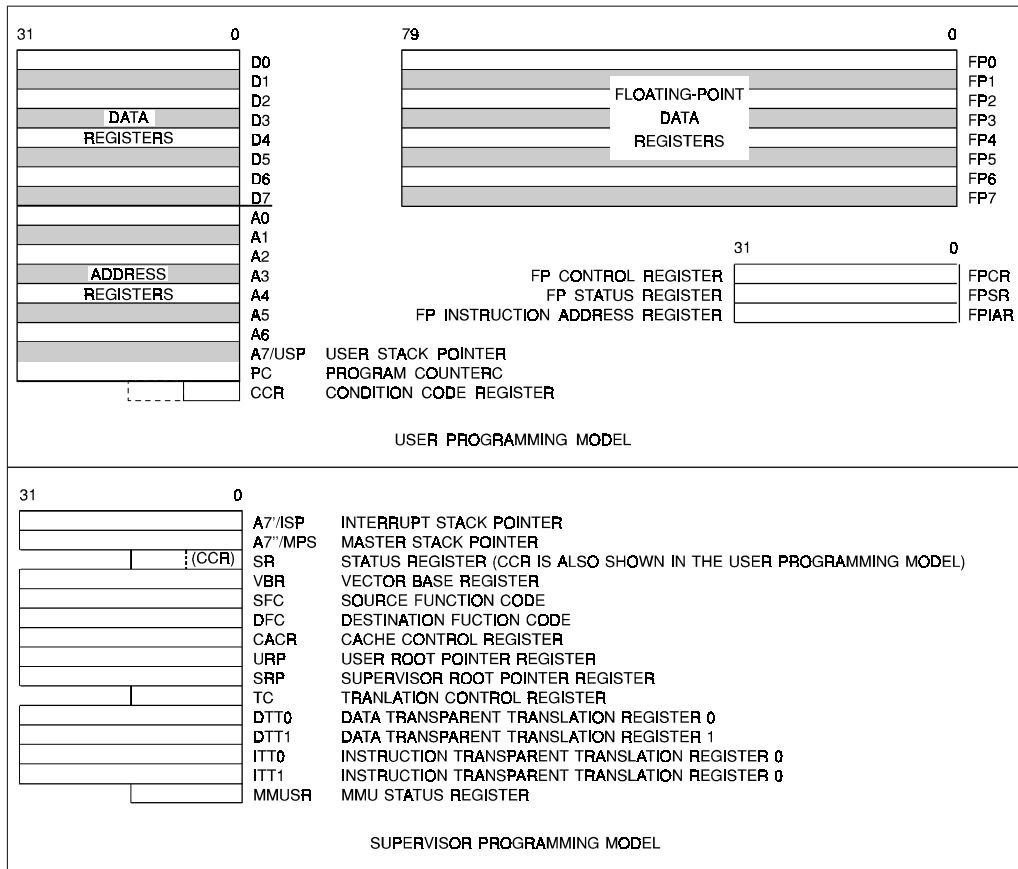

Figure 20 : Programming model.
The TS 68040 integrates the functions of the integer unit, MMU, and FPU. As shown in Figure 20, the registers depicted in the programming model provide access and control for the three units. The registers are partitioned into two levels of privilege : user and supervisor. User programs, executing in the user mode, can only use the resources of the user model. System software, executing in the supervisor mode, has unrestricted access to all processor resources.
Registers D0-D7 are data registers containing operands for bit and bit field (1 to 32 bits), byte (8 bit), word (16 bit), long-word (32 bit), and quad-word (64 bit) operations. Registers A0-A6 and the stack pointer registers (user, interrupt, and master) are address registers that may be used as software stack pointers or base address registers. Register A7 is the user stack pointer in user mode, and is either the interrupt or master stack pointer (A7' or A7") in supervisor mode. In supervisor mode, the active stack pointer (interrupt or master) is selected based on a bit in the status register (SR). The address registers may be used for word and long-word operations, and all of the 16 general-purpose registers (D0-D7, A0-A7 in Figure 20) may be used as index registers.
The translation control register (TC) enables logical-to-physical address translation and selects either 4K or 8K page sizes. As shown in Figure 20, there are four transparent translation registers - ITT0 and ITT1 for instruction accesses and DTT0 and DTT1 for data accesses. These registers allow portions of the logical address space to be transparently mapped and accessed without the use of resident descriptors in an ATC. The MMU status register (MMUSR) contains status information from the execution of a PTEST instruction. The PTEST instruction searches the translation tables for the logical address as specified by this instruction's effective address field and the DFC.